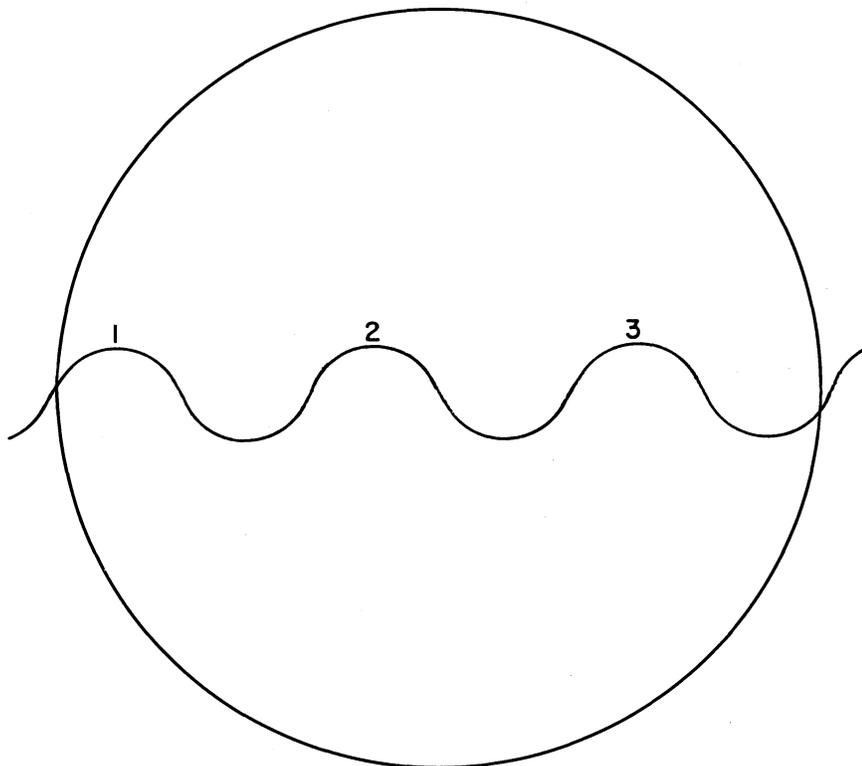

Figure 1
- (a) Connect the oscilloscope Y-axis input to terminal 4 of V1 electron tube, and adjust the oscilloscope sweep (without locked-in synchronization) to show a 3-cycle stationary trace as indicated in Figure 1.